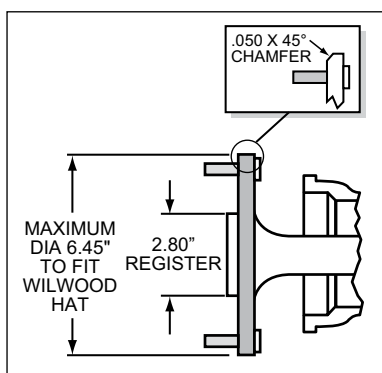

Figure 2. Axle Flange Maximum Dimension
- Axle center register diameter is 2.80", Figure 2. This kit uses Wilwood's removable center register adapters. Rotors can either be centered on the axle register, i.e. *register-centric* or centered on the wheel studs, i.e. *stud-centric*. Due to variations in wheel stud final diameters, *register-centric* centering can be a more accurate method of centering the rotor to the axle. Wilwood offers various diameter adapters for purchase in addition to the ones supplied in this kit, see Table 1.
- Maximum axle flange diameter must be no larger than 6.45" w/.050" x 45° chamfer, Figure 2.